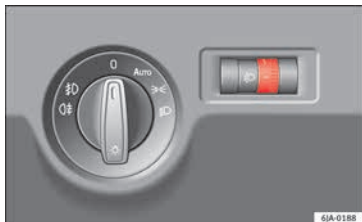

Fig. 130 Instrument panel: light range control.
- Turn the control » Fig. 130 to set the lights to the required setting.